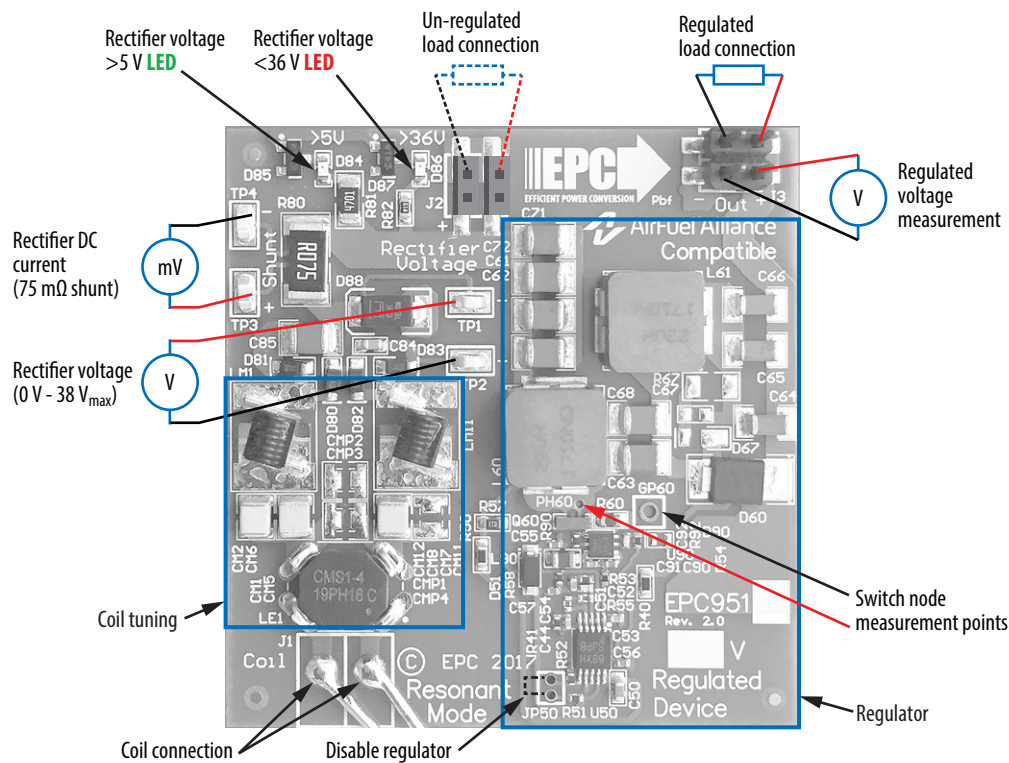

Figure 3: Proper connection and measurement setup for the receiver board.
Figure 3 shows the proper connection method to the EPC9515.
The EPC9515 demonstration system is easy to set up and evaluate the performance of the eGaN FET in a wireless power transfer application. Refer to figure 3 for proper connection and measurement setup before following the testing procedures.
1. Make sure the entire system is fully assembled (this includes the wireless power transmitter) prior to making electrical connections and make sure jumper JP50 is NOT installed. Connect the load to the regulated output and connect all required instrumentation according to figure 3.
1. Make sure the entire system is fully assembled (this includes the wireless power transmitter) prior to making electrical connections and make sure jumper JP50 is installed. Connect the load to the un-regulated output and connect all required instrumentation according to figure 3 (where applicable).
When measuring the high frequency content such as the switch-node, care must be taken to avoid long ground leads. An oscilloscope probe connection (preferred method) has been built into the board to simplify the measurement of the switch-node voltage (shown in figure 3).